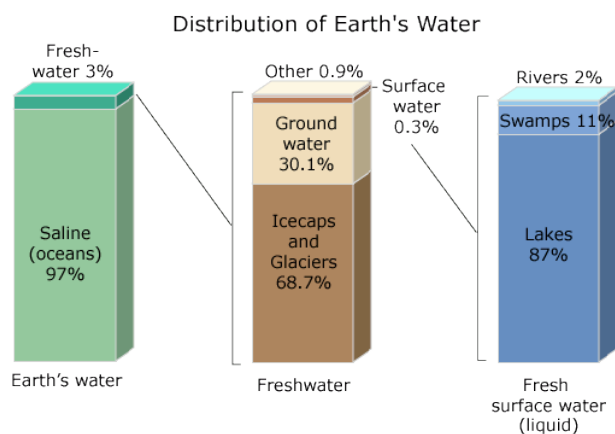

Figure 1. Distribution of earth's water.
1. According to the bar graphs in Figure 1, **what percentage** of the world's water is **fresh water**?